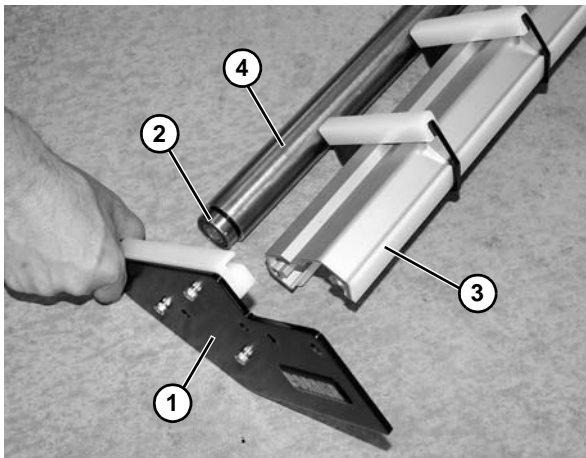

Figure 74
5. Remove plate (**Figure 74, item 1**) from shaft bearing (**Figure 74, item 2**) and crossmember (**Figure 74, item 3**). Repeat procedure on opposite side.
6. Remove shaft (**Figure 74, item 4**) from opposite end plate.